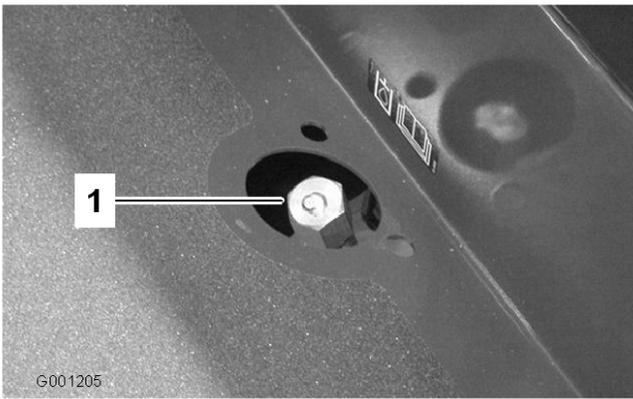

Figure 24
2. Remove dipstick cap (Figure 24) from filler neck and wipe it with a clean rag. Screw dipstick cap finger-tight onto filler neck; then remove it and check level of fluid. If level is not within 1/2 inch (13 mm) from the groove in the dipstick, add enough high quality hydraulic fluid to raise level to groove mark. Do not overfill.